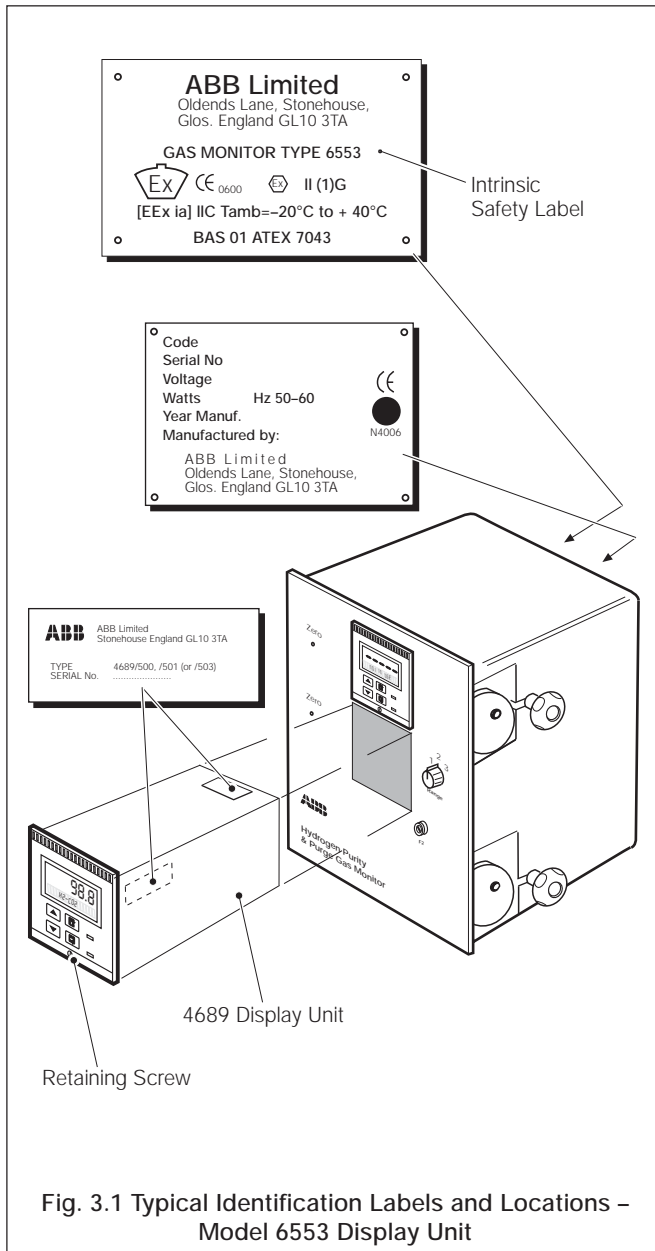

Fig. 3.1 Typical Identification Labels and Locations – Model 6553 Display Unit
3.1.1 Model 6553 Display Unit – Fig. 3.1
Identification and certification labels are fixed to the outside of the unit case as shown in Fig. 3.1. Use the ordering code table in Section 3.1.4 to interpret the identification label code and obtain a precise description of the 6553 Display Unit.
Note. Location of the identification label on the 4689 display unit is also shown in Fig. 3.1.